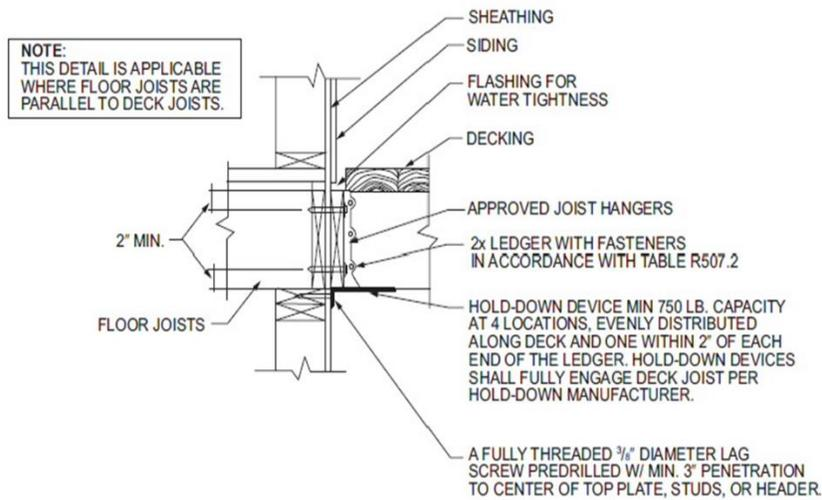

FIGURE 502.2.3(2) Deck attachment for lateral load
**FIGURE 502.2.3(1) Deck attachment for lateral loads.** The lateral load connection required by Section R507.1 shall be permitted to be in accordance with Figure R507.2.3 (1) or R507.2.3 (2). Where the lateral load connection is provided in accordance with Figure R507.2.3 (1), hold-down tension devices shall be installed in not less than two locations per deck, within 24 inches of each end of the deck. Each device shall have an allowable stress design capacity of not less than 1,500 pounds (6672 N). Where the lateral load connections are provided in accordance